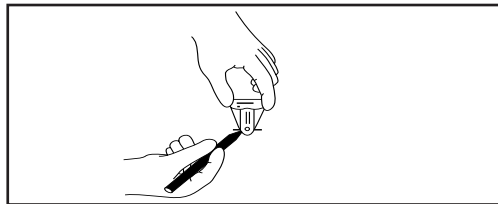

FIGURE 9
- To determine the exact location of the MAGNA-SITE™, turn the MAGNA-FINDER™ 90° and again, slowly move the MAGNA-FINDER™ back and forth. When the magnet locator is again perpendicular, make two more marks, as shown in Figure 9.